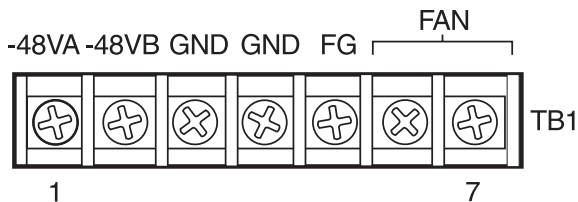

Figure 6. Terminal Strip TB1
- 4** Connect the power and optional fan inputs to TB1 as shown in Figure 6. Slots 1 through 14 on the HMS-317 (slots 1 through 11 on the HMS-318) are powered by the -48VA bus, and slots 15 through 28 on the HMS-317 (slots 12 through 22 on the HMS-318) are powered by the -48VB bus. The two GND terminals are tied together. The HMU-319 is diode-OR’ed to both power busses, to guard against power failure in the event that one power supply is lost. This feature requires the 2 ground terminals to be tied together on the HMU card.